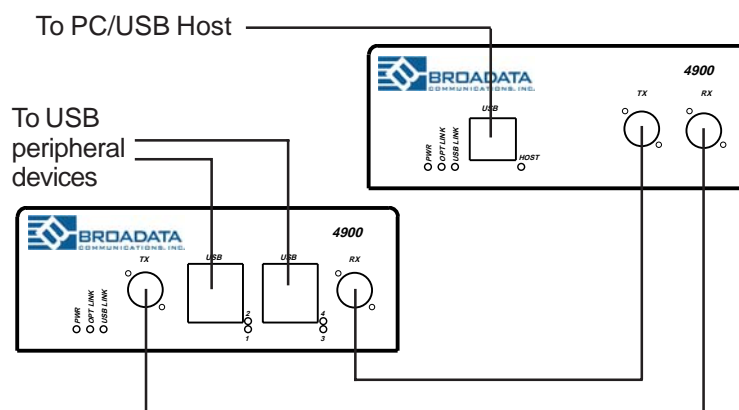

Figure 2-1
3. Cross-connect the fibers from one unit to the other, connecting the near end 4900 unit's optical TX port to the far end 4900 unit's optical RX port, as illustrated in Figure 2-1. Observe the type of connector you have and connect the optical connector.